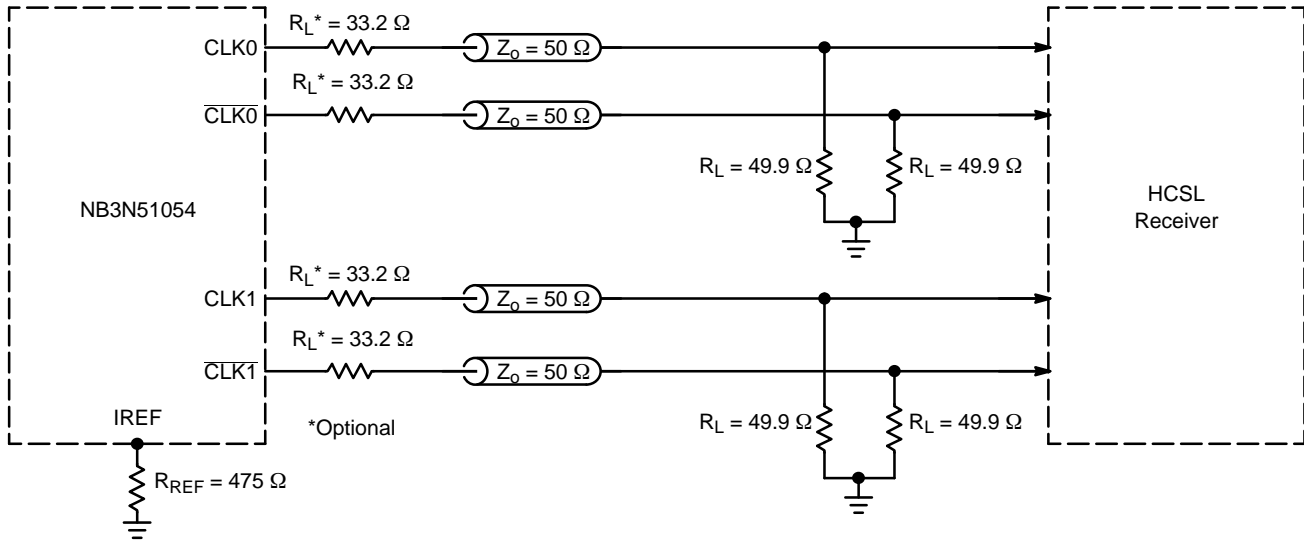
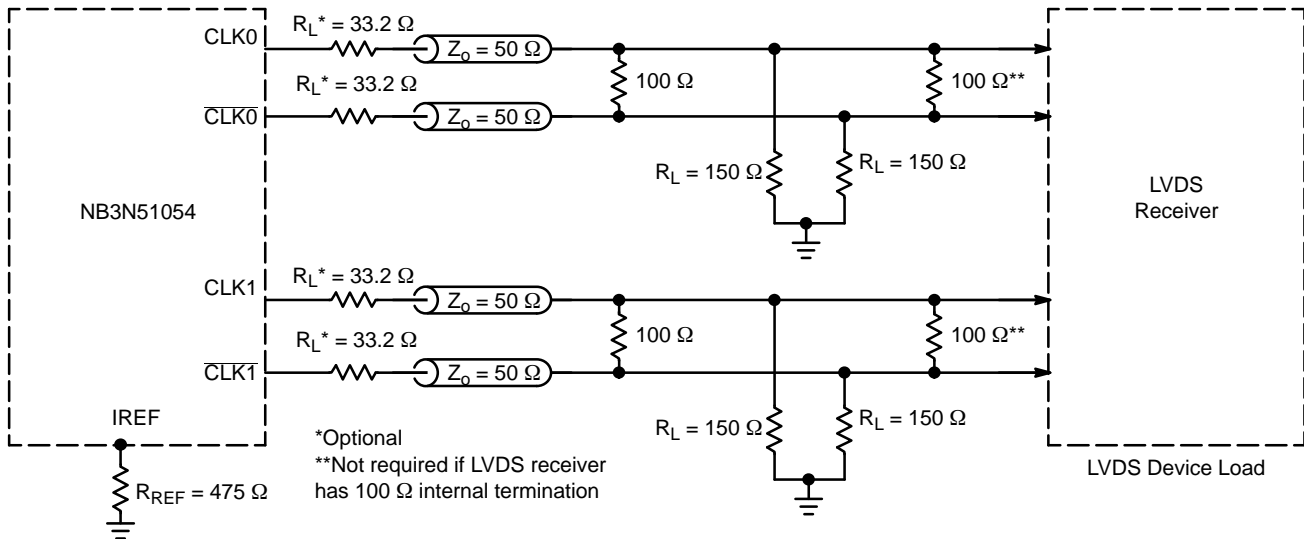

Figure 6. Typical Termination for HCSL Output Driver and Device Evaluation
Figure 7. Typical Termination for LVDS Device Load
- Measurement taken with outputs terminated with $R_S = 33.2$ Ω, $R_L = 49.9$ Ω, with test load capacitance of 2 pF and current biasing resistor set at $R_{REF} = 475$ Ω. See Figure 6. Guaranteed by characterization.
9. Measurement taken from differential output on single-ended channel terminated with $R_S = 33.2\ \Omega$, $R_L = 49.9\ \Omega$, with test load capacitance of 2 pF and current biasing resistor set at $R_{REF} = 475\ \Omega$. See Figure 6. Guaranteed by characterization.
14. Measurement taken from differential output on single-ended channel terminated with $R_S = 33.2 \Omega$, $R_L = 49.9 \Omega$, with test load capacitance of 2 pF and current biasing resistor set at $R_{REF} = 475 \Omega$. See Figure 6. This parameter is guaranteed by characterization. Not tested in production
The outputs can be terminated to drive HCSL receiver (see Figure 6) or LVDS receiver (see Figure 7). HCSL output interface requires 49.9 Ω termination resistors to GND for generating the output levels. LVDS output interface may not